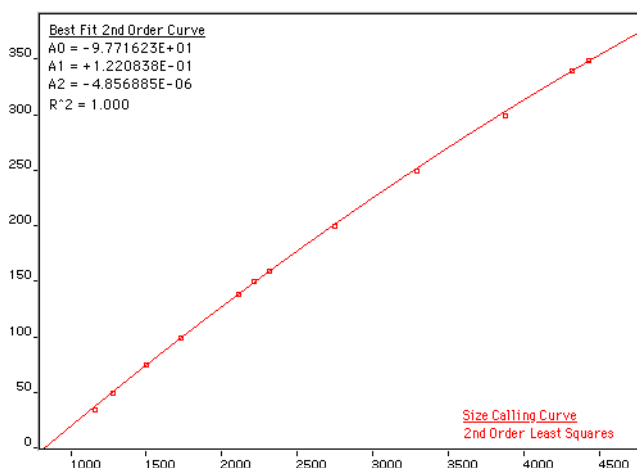

Figure 3-15 2nd-Order Least Squares size calling curve
**Advantages** Figures 3-15 and 3-16 on page 48 show that in nearly all instances the mobility of an individual DNA fragment is coincident with the best curve fit of the entire data set. Stated differently, the mobility of most DNA fragments is strictly length dependent. This method automatically compensates for fragments that run anomalously.